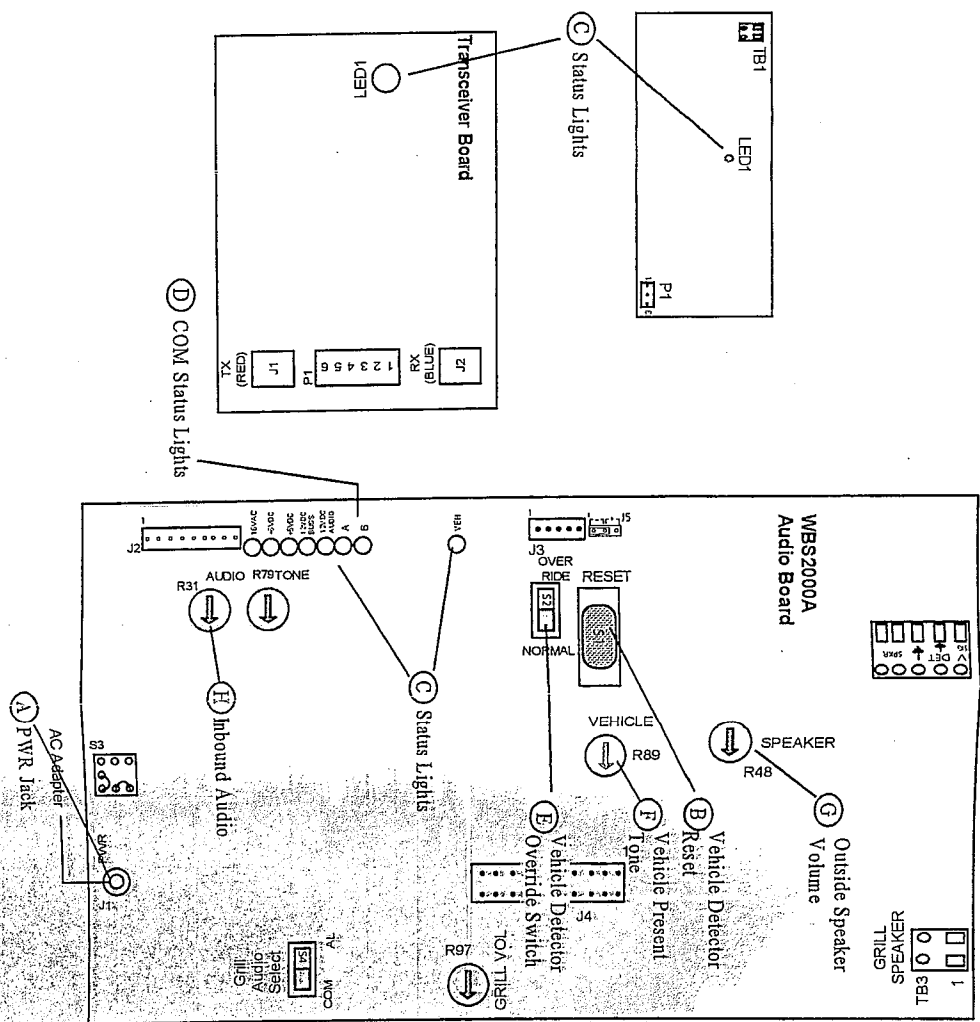

Figure 2-11. System Check Out
First, plug the connector on the AC Adapter into the PWR jack (figure 2-11 [A] ) on the Audio Board.
If the System uses a Vehicle Detector Loop and VDB100 or VDB101 Vehicle Detector Board, make sure the Vehicle Detector Switch (figure 2-11 [E]) is set to NORMAL. Then, reset the loop by pressing the vehicle detector loop RESET (figure 2-11 [B] ) button on the Audio Board when no vehicle is present.
Observe the status lights on the Base Station and confirm their condition: see table 2-1 and figure 2-11 [C].
- Station goes on. See figure 2-11 [D].
2. Press the B button on the Communicator. See if the B light in the Base Station goes on. Refer to figure 2-11 [D].
If there is a momentary power interruption in the Base Station while there is a vehicle over the loop, the system gives a false indication that no vehicle is present. Correct this by pressing the Vehicle Detector Reset button (figure 2-11 [B] ) when no vehicle is present.
1. Be sure the Vehicle Detector Override switch (figure 2-11 [E] ) on the Audio Board works by sliding the switch to OVERRIDE. This turns on the Menu board microphone though no vehicle is present. Return the Override switch to NORMAL.
2. Check the tone level by having a vehicle drive over the loop to the Menu board speaker/microphone. If necessary, adjust the Vehicle Present Tone Level (R89) on the Audio Board (figure 2-11 [F] ).
3. If needed adjust the audio level to the Menu board speaker by adjusting Outside Speaker Volume (Speaker)(R48) on the Audio Board (figure 2-11 [G] ).